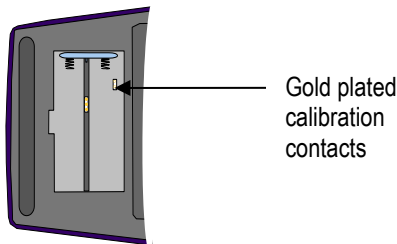

Figure 2. Link has to be placed across gold plated calibration contacts
- Using tweezers, place a link across gold plated calibration contacts inside battery compartment, Figure 2. Turn on external power via micro USB.